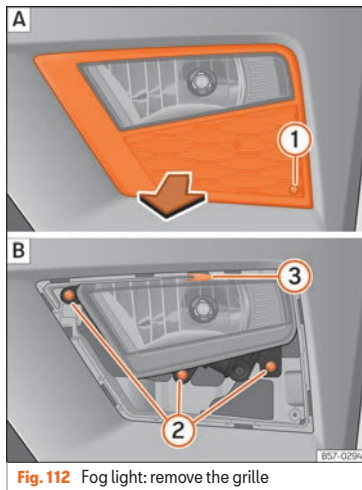
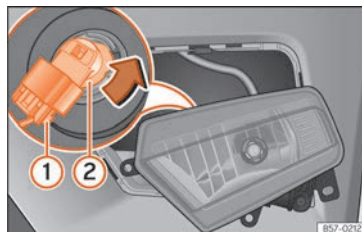

Fig. 112 Fog light: remove the grille
Fig. 113 Fog light: detach the bulb holder
1. Remove the screw » **Fig. 112 ① A** from the fog light grille using a screwdriver and extract the grille.
2. Remove the 3 screws » **Fig. 112 ② B**.
3. Remove the metal clip situated on the upper part of the fog light by pulling away from the vehicle **③ B** and extract the fog light.
4. Remove connector » **Fig. 113 ①** from the bulb.
5. Turn the bulb holder » **Fig. 113 ②** anticlockwise and pull.